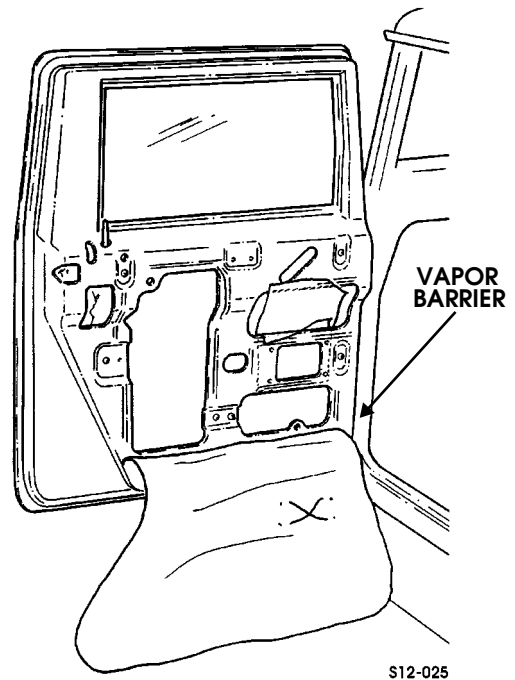

Figure 12-3: Vapor Barrier Removal/Installation
3. Remove vapor barrier (Figure 12-3).
5. Install vapor barrier (Figure 12-3).